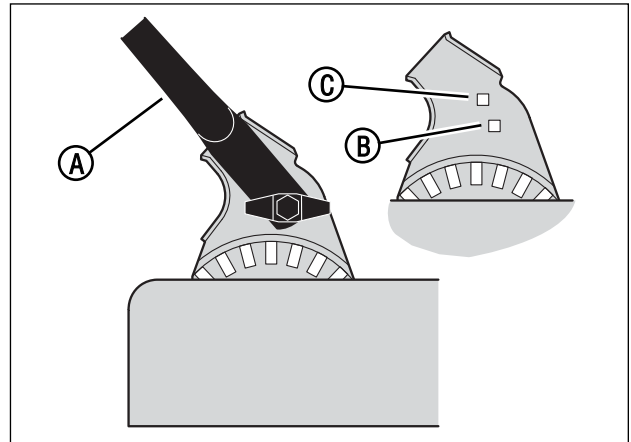

Figure 5: Handle positions (Models MD2250 & NMD2250)
2. To raise the handle, mount the lower handle (A, Figure 5) in the high position (B).
3. To lower the handle, mount the lower handle in the low position (C).